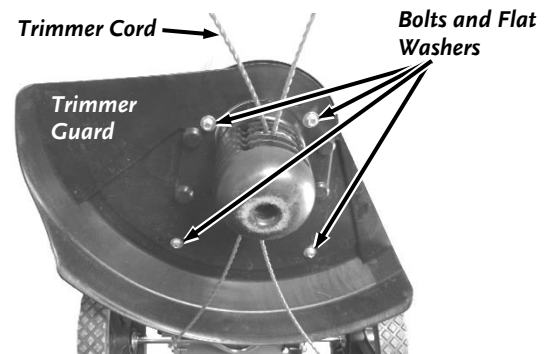

Figure 5
2. Remove the Trimmer Cords from the Head Assembly (**Figure 5**).
10. Reinstall the Trimmer Guard (**Figure 5**).